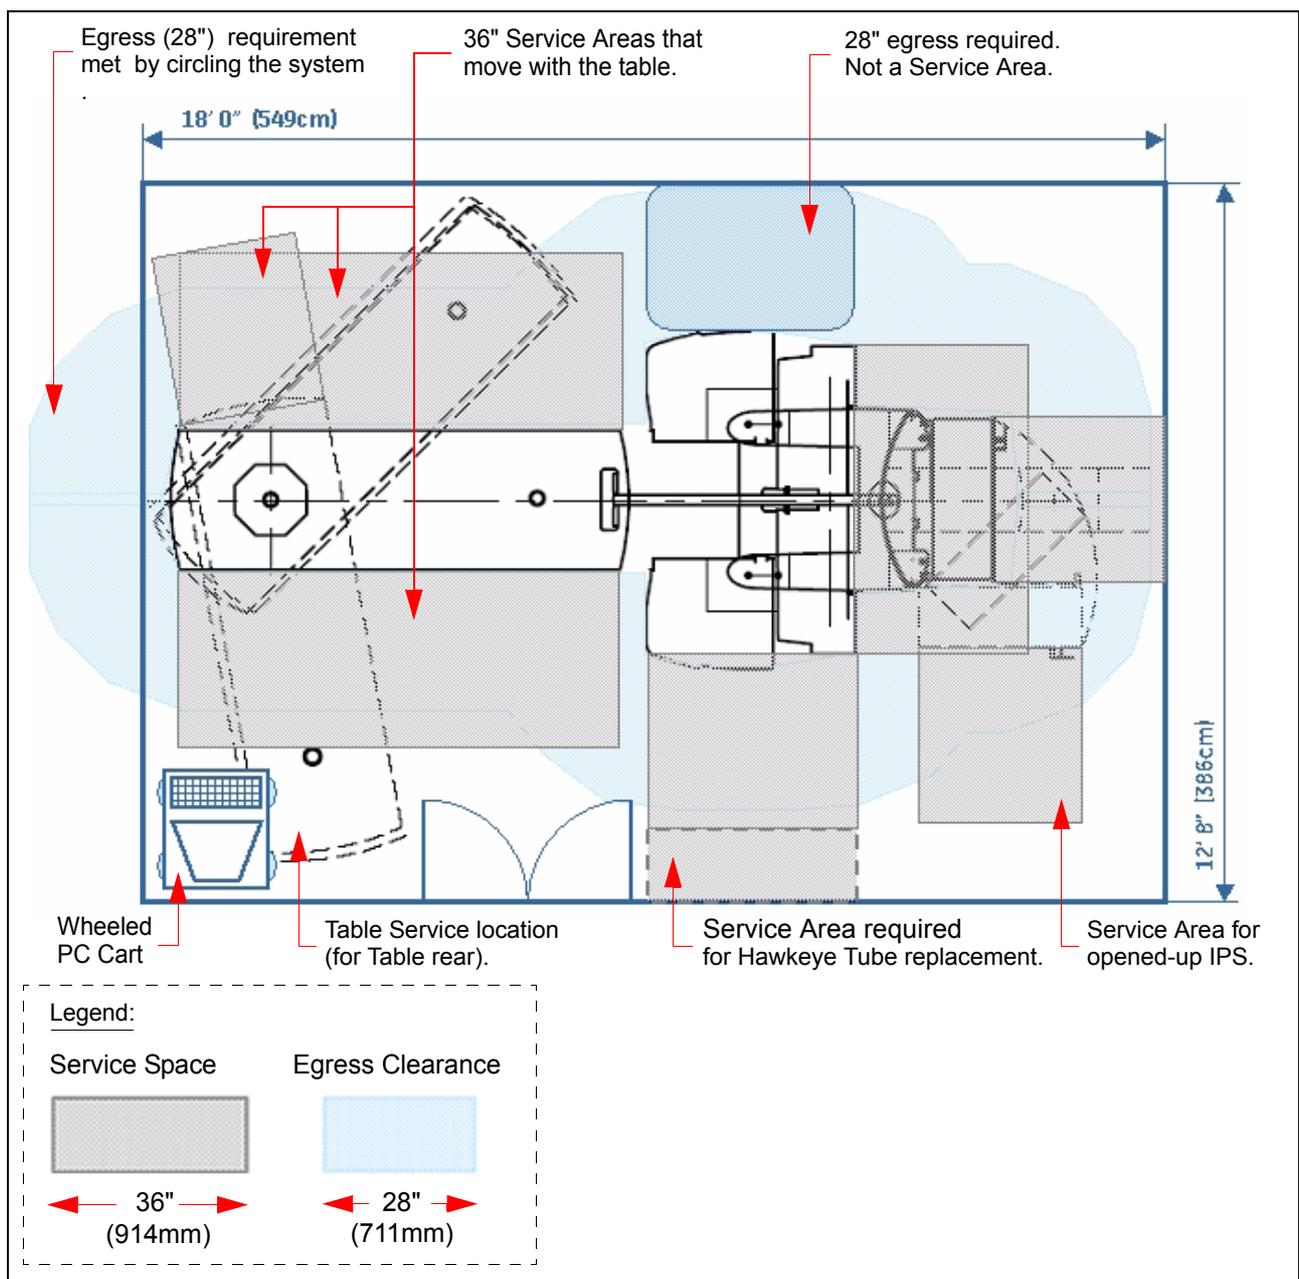

Figure 4-6 Minimum Layout for System
For clearance requirements, refer to Figure 4-4 through Figure 4-6 in this chapter.
Figure 4-6 shows a minimum room layout drawing showing location of all basic units for a Hawkeye 4 system. Observe that the dimensions given are for installation of the system only, requirements for clinical access, and for peripheral clinical equipment placement, such as storage cabinets, sinks, etc., must be taken into considerations during the room layout.
- All gantry service done on the right side as shown in Figure 4-6.
- Table rotates for rear service access, as shown in Figure 4-6.